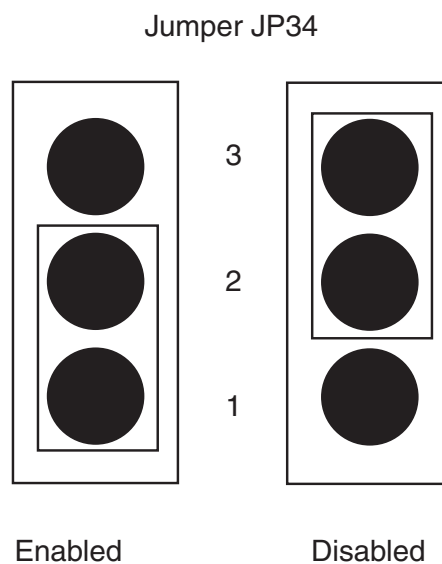

Figure 6-7. Jumper JP34 configured to enable (left) or disable the X5DA8 motherboard's on-board SCSI controller.
2. Remove any PCI or PCI-X boards (mostly likely in slots #4 and #3, as seen in Figure 6-7) that may be necessary to gain access to Jumper JP34.
Remove the shunt and attach it to pins 2 and 3, as shown at right in Figure 6-7.